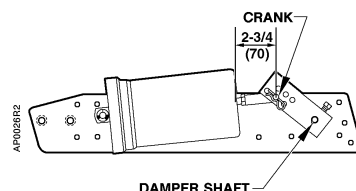

Figure 3. Extended Shaft Mounting.
2. Slip the crank over the 3/8 through 1/2-inch (10 through 13-mm) diameter damper shaft (Figure 3).